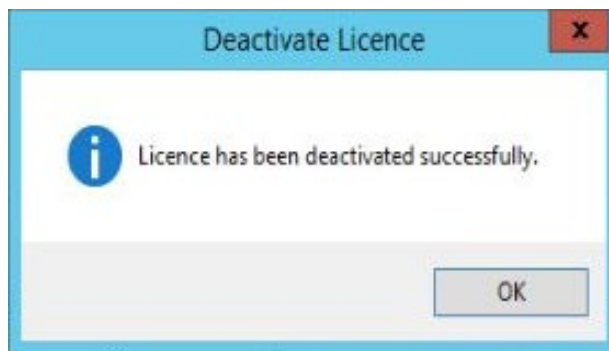

Figure 177
- Deactivation may take a few seconds; when complete, a Deactivate Licence message will be displayed. See Figure 177 below: